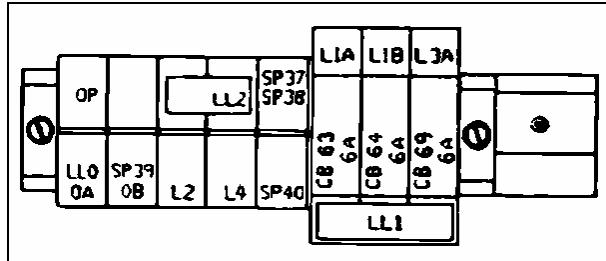

FIGURE 2
3. Connect wires *LLO* and *OA* with wire *OP* on stud #1 (Fig. 2). Remove wire *SP39* from stud #5 and connect it on stud #2 with wire *OB*.